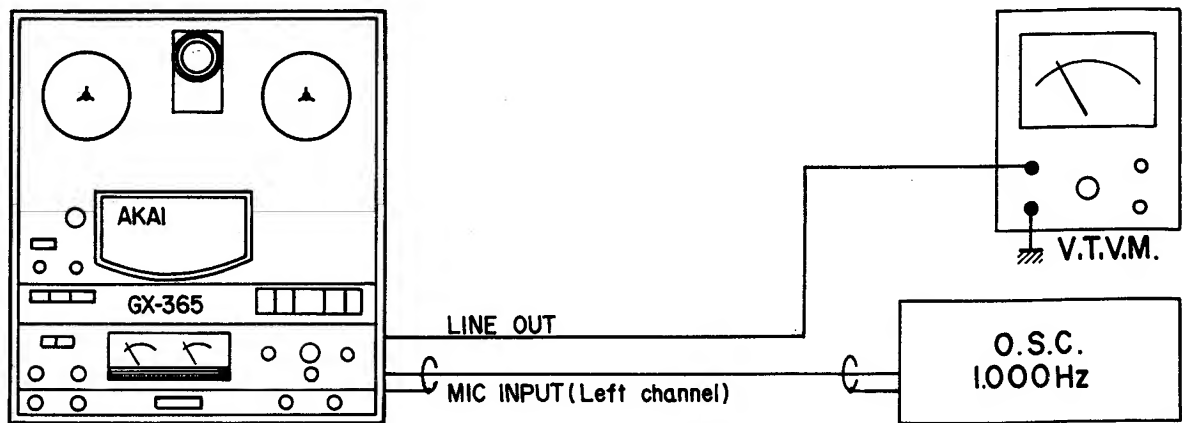

Fig. 4
- a) As shown in Fig. 4, connect an audio oscillator to the left Mic Input jack and a V.T.V.M. to the left Line Output of the tape recorder. Supply a 1,000 Hz signal 4 mV to the Mic Input with the Audio Oscillator.